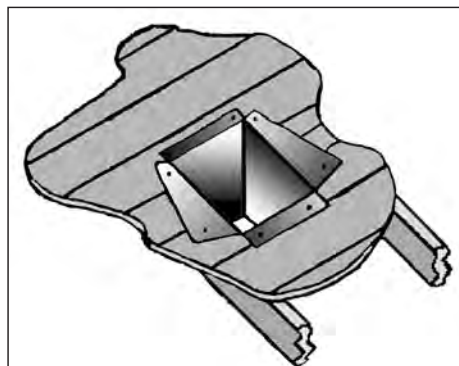

Figure 35: Cathedral Ceiling Support Box Installation.
5. Using tin snips, cut the Support Box from the top corners down to the roof line, and fold the resulting flaps over the roof sheathing (Figure 35). Before nailing it to the roof, run a bead of non-hardening mastic around the top edges of the Support Box to make a seal between the box and the roof. Clean out any combustible material from the inside of the Support Box.